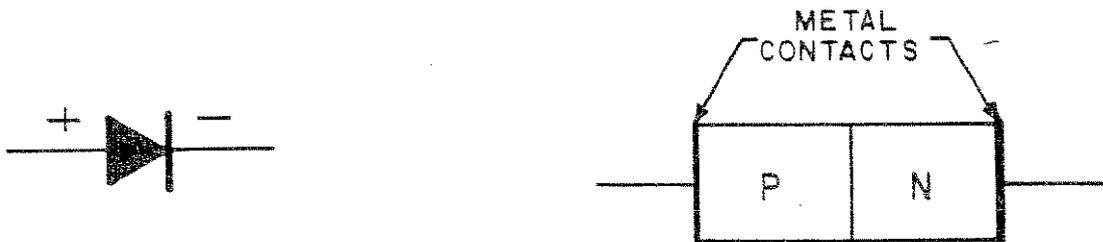
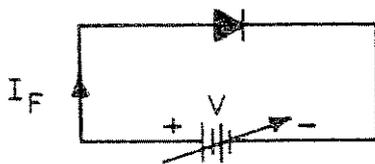

Figure 3-1. Diode Symbol
Figure 3-2. P-N Junction Biased in the Forward Direction
A semiconductor diode is formed by the creation of a junction between P-material and N-material within a crystal during the manufacturing process. The standard semiconductor diode has in its symbol, an arrow to indicate the direction of forward current flow, as shown in Figure 3-1. With positive voltage applied to the P-material and negative voltage applied to the N-material, the diode is said to be forward biased, as shown in Figure 3-2. The current (I_f) increases rapidly with small increases in applied voltage (V).